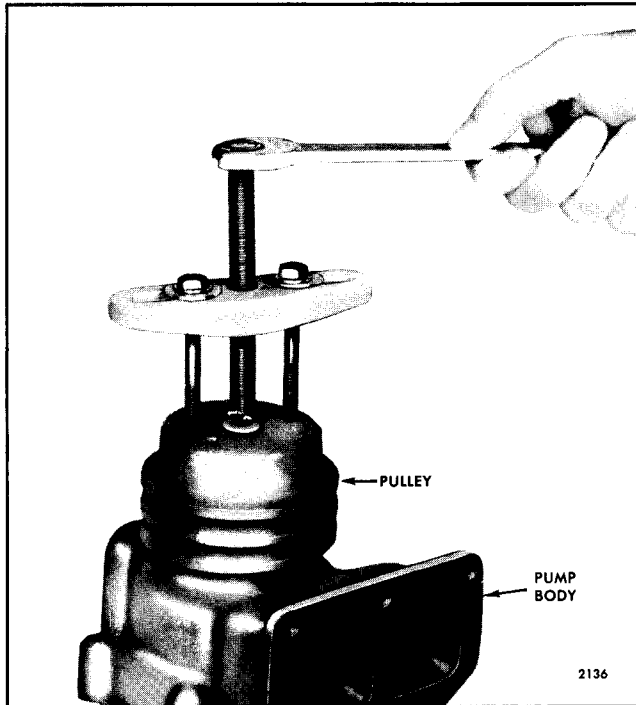

Fig. 6 - Removing Pulley using Puller J 24420-A
1. Note the position of the pulley on the shaft so that the pulley can be reinstalled in the same position when the pump is reassembled. Remove the water pump pulley (Fig. 6).